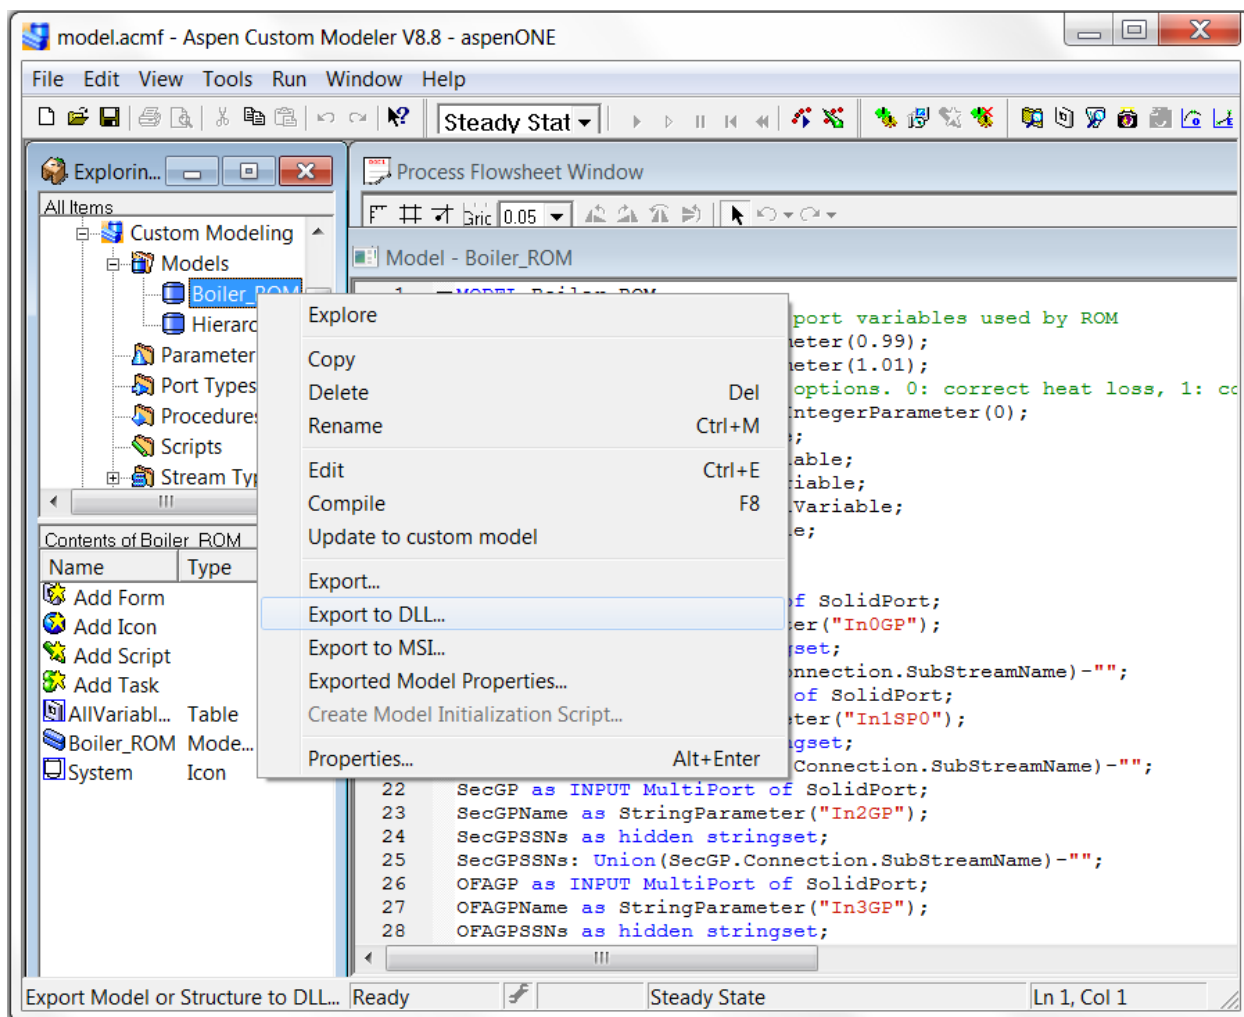

Figure 18: Compiling ACM Source Code and Exporting DLL
3. If the Visual Studio C++[®] compiler is installed, the ACM source code exported by iREVEAL can be compiled. Right-click the “Boiler_ROM” item and then select the “Export to DLL...” pop-up menu as shown in Figure 18. An “Export to DLL” window displays, enabling the user to specify a folder to which the exported DLL resides. The user can accept the default folder and then click “OK” to export the DLL. Note: “C:\Windows\System32” has to be included in your computer’s PATH in order to compile the C++ code to generate the DLL.